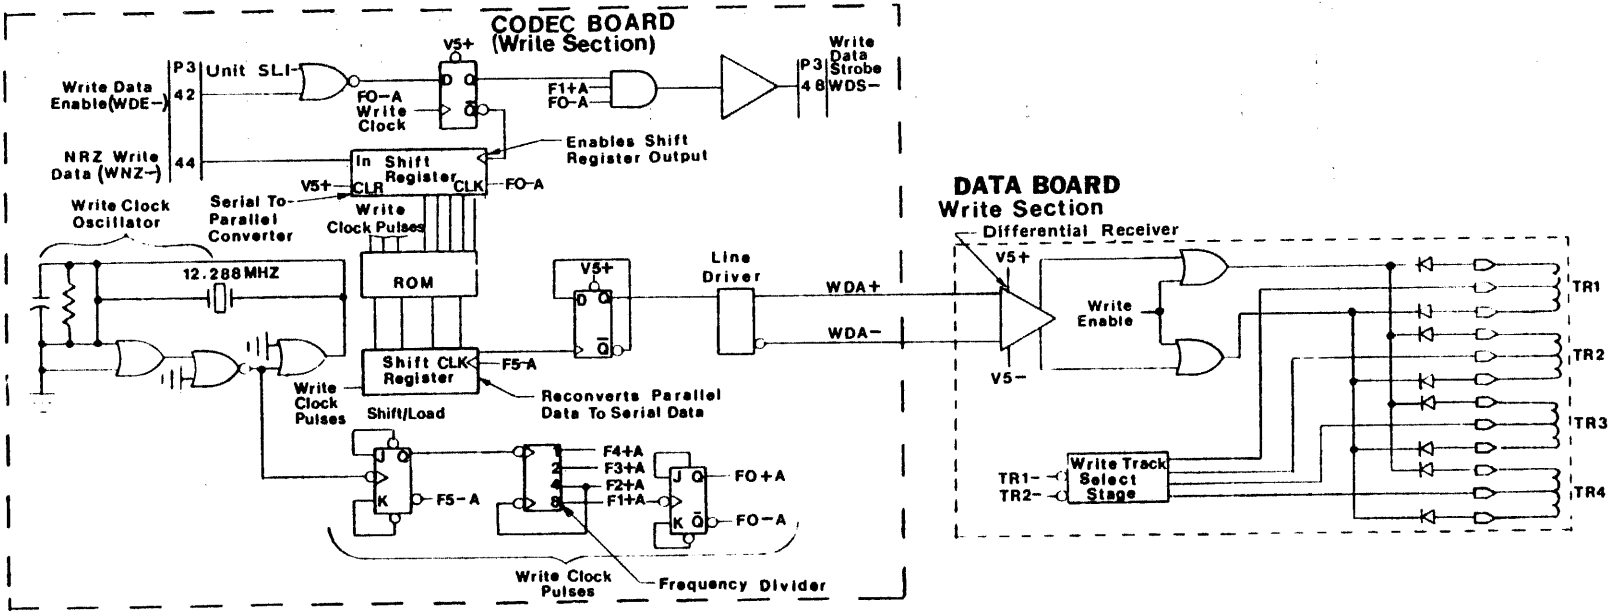

FIGURE 4-5. NRZ TO MFM ENCODING; WRITE DATA BLOCK DIAGRAM
4.5.1 Write Data Generation (Refer to Figure 4-5)